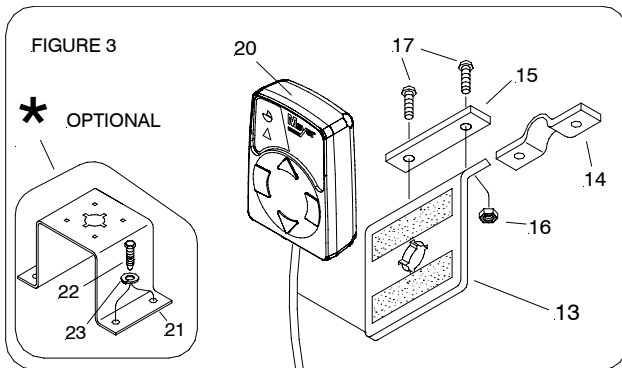

Figure 3
- D. Install Male Plug (8) through the vehicle grill.
- E. Choose a convenient location for the control switch. If the desired location is the dashboard, install Bracket (13) by drilling 2 holes in the dashboard and secure using Round Head Machine Screws (17) and Locknuts (16). Install Backup Plate (15) behind dash for added stiffness. See Figure 3. Also apply Danger Decal to dashboard.
- F. To mount control to shift lever, use Bracket (13), Clamp Plate (14), Round Head Machine Screws (17) and locknuts (16). See Figure 3.
- H. Use Bushing (19) where Harness (8) is routed through firewall and radiator support panel. Requires 7/8" diameter hole. Be certain to route all wiring around hot or moving engine parts, and any sharp sheet metal. Protection must be provided to guard against wire damage at these points. All excess or loose wire must be neatly secured using wire ties. Fused lead from Wiring Harness (8) must be attached to terminal in fuse panel that is activated only when the ignition key is "on."
- I. Install Starter Solenoid (1) to metal surface in engine compartment using Screws (18). (Solenoid must be grounded to operate). Attach Red Power Cable from Harness (8) to a large terminal on Starter Solenoid (1). Attach Black Ground Cable from Harness (8) to negative (-) terminal of battery. Attach 36" Power Cable (11) to positive (+) terminal of battery and remaining large terminal on Starter Solenoid (1). Attach small white wire from harness (8) to small terminal on Starter Solenoid (1).